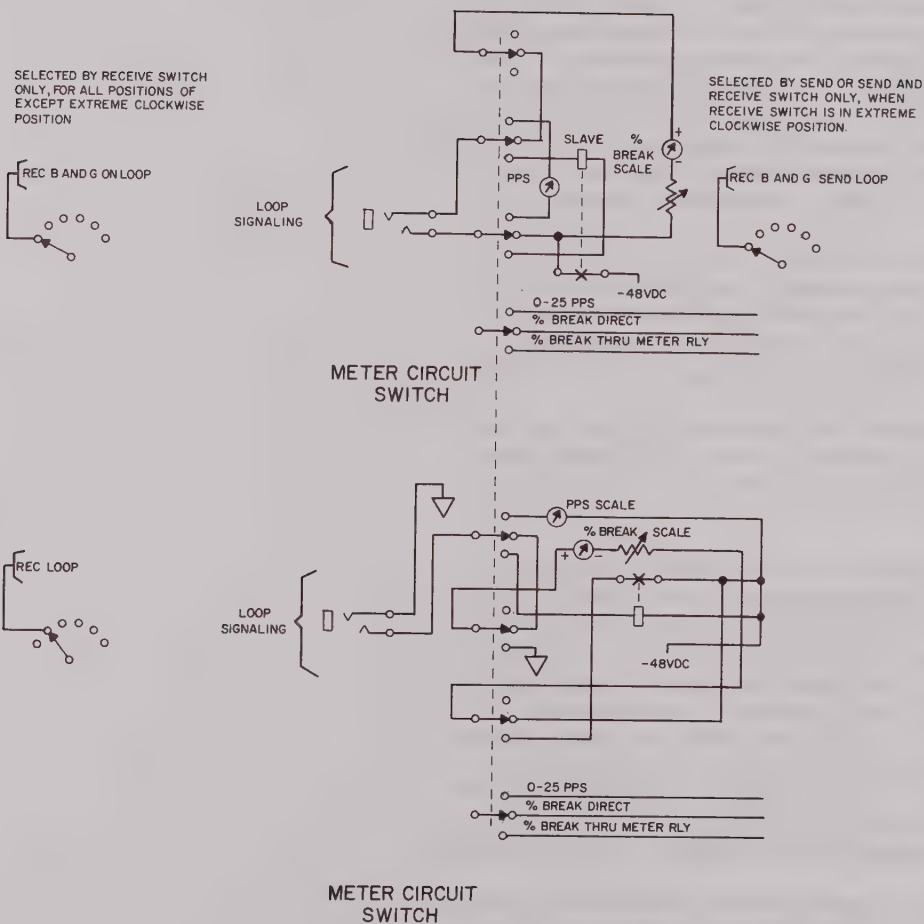

Figure 3-3a METER CIRCUIT
3.15 SENDING LOOP SIGNALS. The following provides the Procedure for Sending Loop Signals on a Loop Circuit (See fig. 3-3a):
3.18 MEASURING % BREAK ON LOOP CIRCUITS. The following provides the procedure for Measuring % Break on Loop Circuits (See fig. 3-3a):